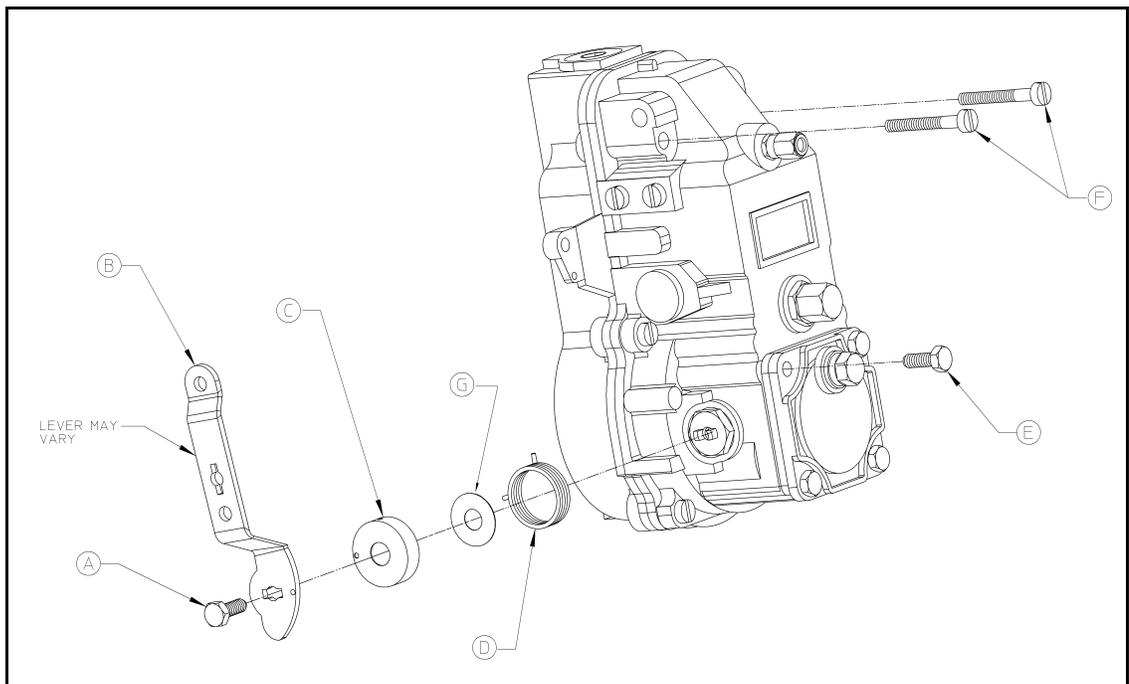

Figure 2. Fuel Pump
Refer to **Figure 2**. The shutoff lever (B) and shutoff lever spring (D) will need to be removed. (The shutoff lever spring may have already been removed if the engine was equipped with an ESO.)